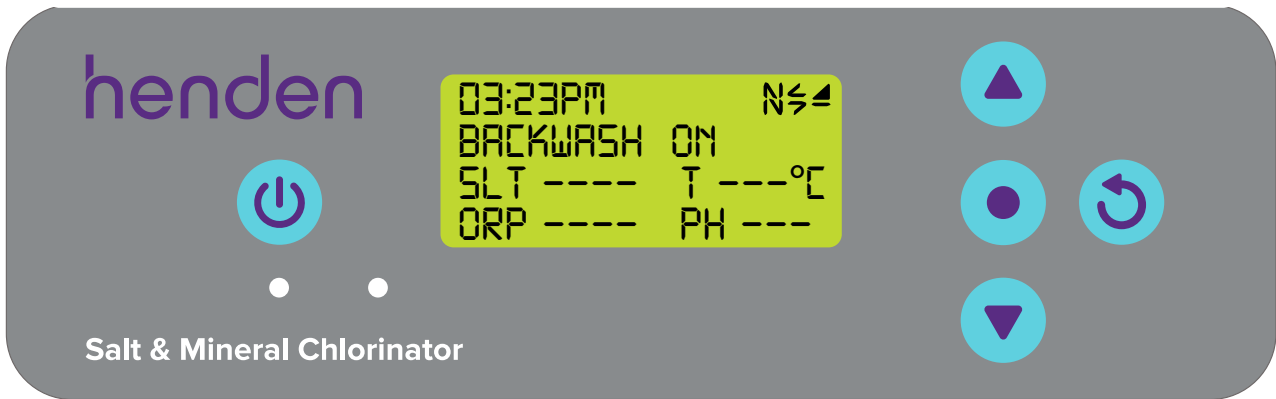

Figure 9.61
- The pump will turn on and in the case of a compatible pump (refer Section 9.1), the flow will begin to vary as the motor speeds up and slows down. During this time, the probes will not show a reading (refer Figure 9.61) as water will be passing from the pool filter to waste. This will continue for ~ 2 minutes. The pump will then stop.